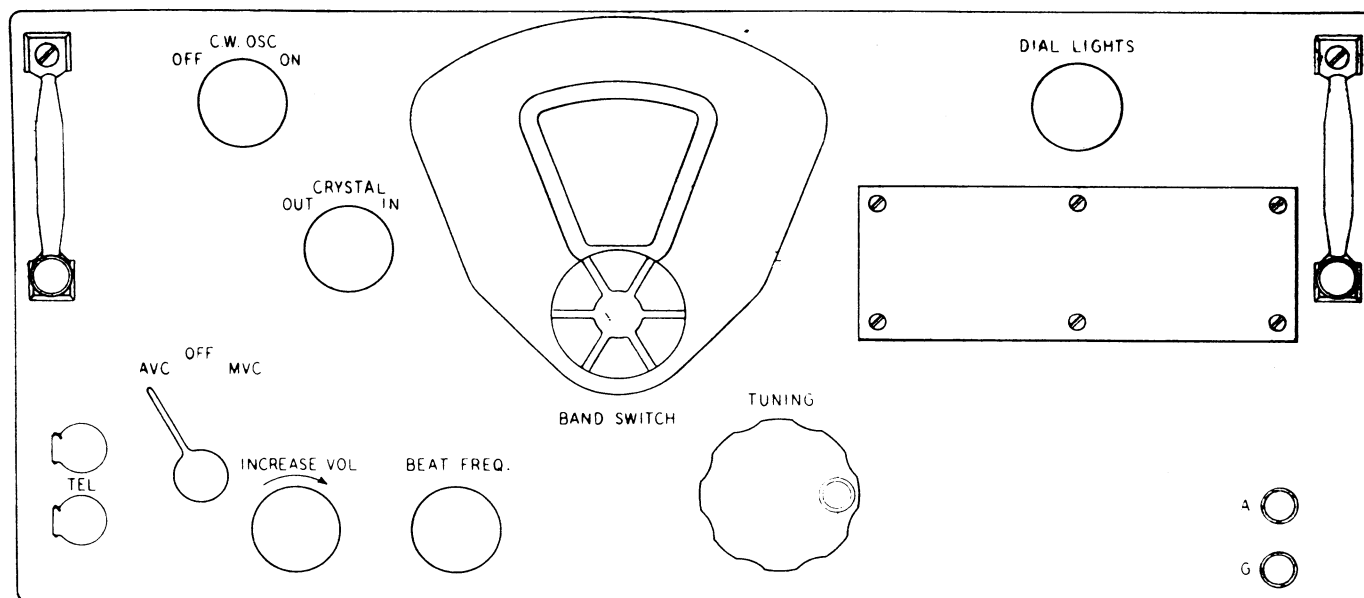

Figure 3 — Radio Receiver BC-348-J, View of Front Panel
- (1) Check the connections at the aircraft power supply.
- (2) Check the connections at the transmitter relay.
- (3) Check the connections at the interphone system, if used.
- (4) Check the power connections to auxiliary equipment, if used.
- (5) Check the antenna and ground connections.
(6) Make sure the thumbscrew rods holding the chassis in the cabinet are tight.
(7) Make sure the snapsides are locked and secured with safety wire.
b. CONTROLS.—The operator should become thoroughly familiar with the controls on the front panel (see Figure 3) and their function before beginning the operating test.
(1) AVC-OFF-MVC. — Power to the receiver is controlled by the AVC-OFF-MVC receiver switch. With this switch in the OFF position, no power is supplied to the receiver. When switched to either the MVC or AVC position, power from the primary source is supplied to the tube heaters and dynamotor, placing the equipment in operation. The screen grid voltage supply leads are carried out of the receiver through the power plug to the keying relay of the associated transmitter where the circuit is opened when actually transmitting. (See Section II, paragraph 13*b*).
(2) DIAL LIGHTS. — The brilliancy of the dial illumination is controlled by this knob. The dial lamps may be adjusted for any desired degree of illumination or turned off completely.
(3) BAND SWITCH. — The frequency band in which the receiver is operating is indicated on the dial mask visible through the dial window. This band may be changed to any desired frequency band by turning the band-switch control.